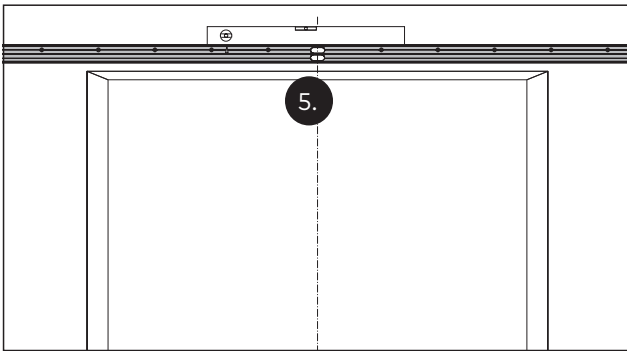

Fig. 10 Aligning the fixing bracket
- Align the fixing bracket horizontally (Fig. 10).